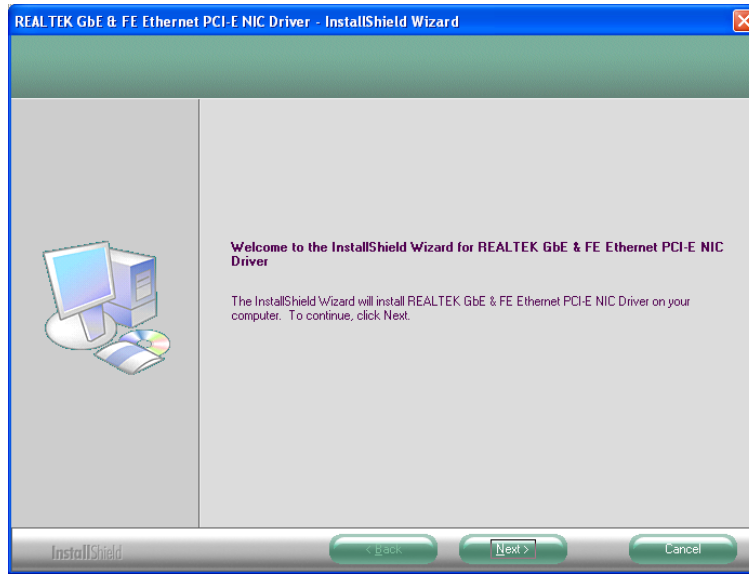

Figure 6-19: LAN Driver Welcome Screen
Step 3: The **Welcome** screen in **Figure 6-19** appears.